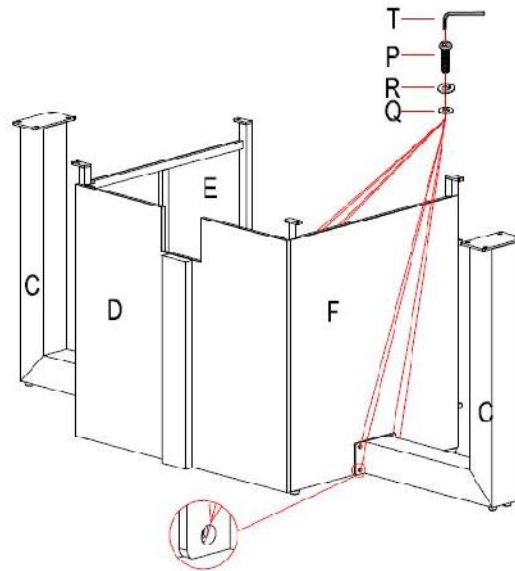

Figure 4
4. Attach the L-leg (C) to Right panel (E) with Bolt (P) and Spring Washer (R) and Washer (Q) by using the Hex screw driver (T). Attach the L-leg (C) to Left panel (F) with Bolt (P) and Spring Washer (R) and Washer (Q) by using the Hex screw driver (T), see Figure 4.